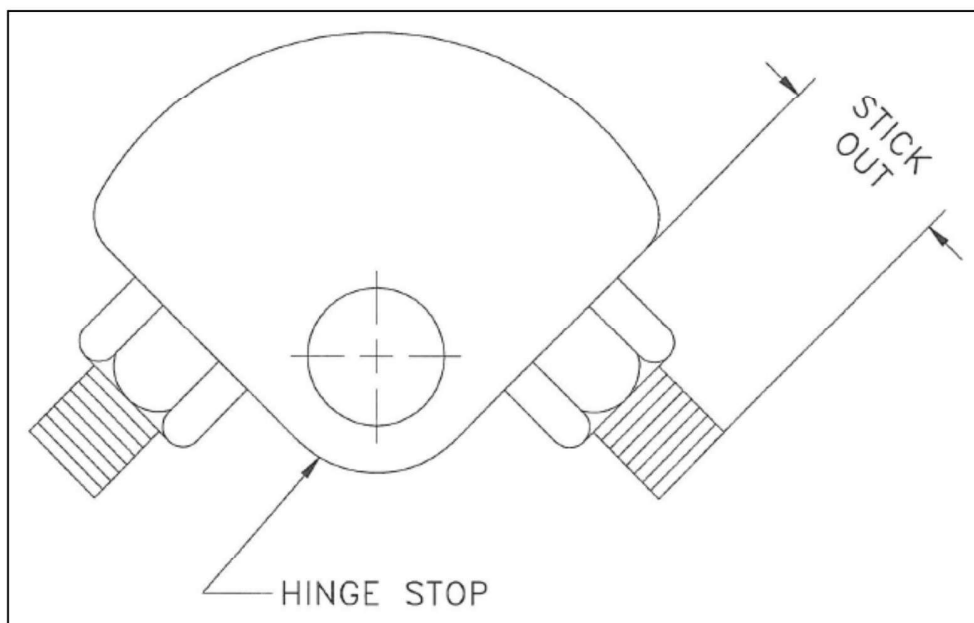
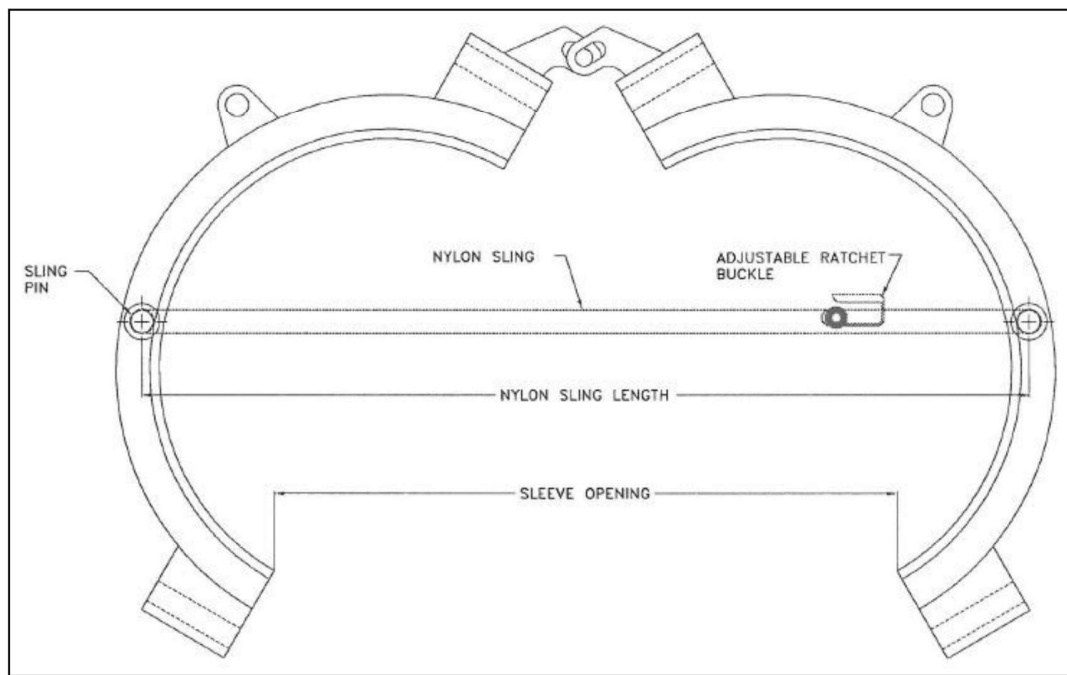

Figure 1
Figure 5
3. Installation of a PLIDCO Split+Sleeve using the Sling Closure Assembly is optional. If the Sling Closure Assembly is not to be used, the hinge stop(s) must be readjusted such that the sleeve opening is 10% to 20% greater than the pipe diameter. Refer to Figure 1 and Figure 5. Failure to do so may result in damage to the seals. The sleeve opening is typically much greater for use with the Sling Closure Assembly than for use without the Sling Closure Assembly.